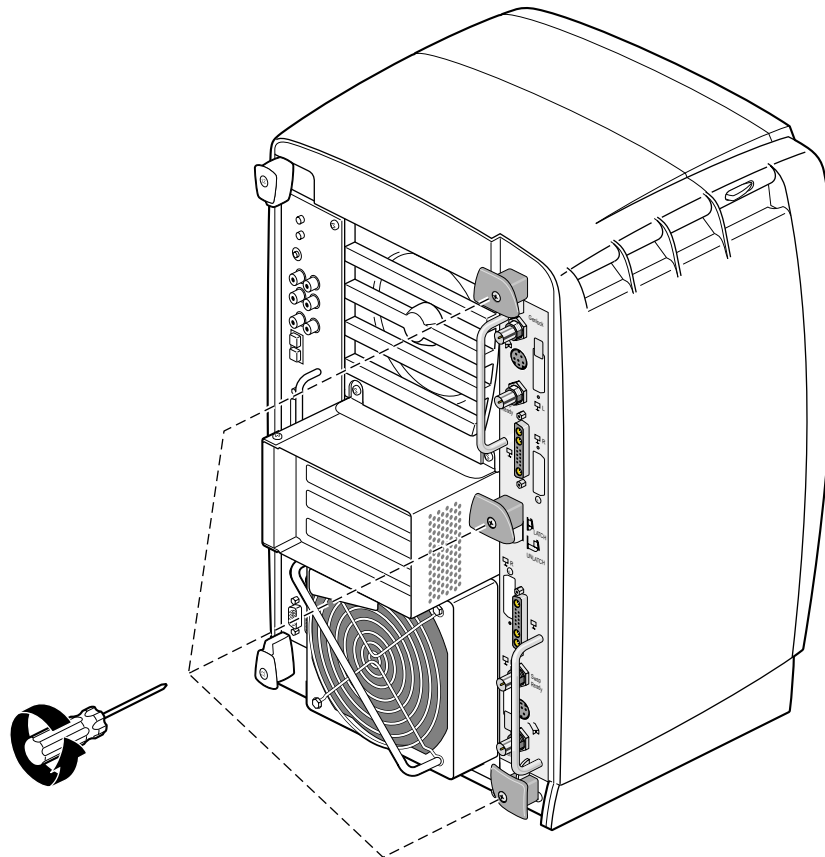

Figure 5-2 Removing the Dual Head XIO Module Screws
1. Using the supplied Phillips screwdriver, loosen the three captive screws in the Dual Head XIO module plastic knobs, as shown in Figure 5-2, until the screws are disconnected from the chassis.